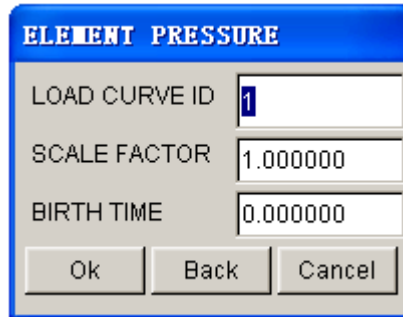

Figure 5.6.4 Element Pressure dialog box
- Define input fields in ELEMENT PRESSURE dialog box as illustrated in Figure 5.6.4.
- Select OK in Figure 5.6.4 to select the element to load.
- Select CANCEL in Figure 5.6.4 to exit.